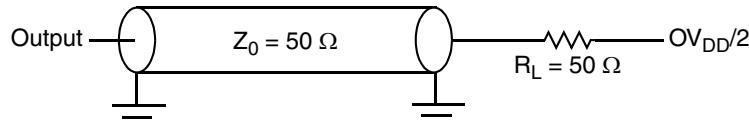

Figure 29. AC Test Load for the JTAG Interface
1. All outputs are measured from the midpoint voltage of the falling/rising edge of  $t_{TCLK}$  to the midpoint of the signal in question. The output timings are measured at the pins. All output timings assume a purely resistive 50- $\Omega$  load (see Figure 29). Time-of-flight delays must be added for trace lengths, vias, and connectors in the system.
2. The symbols used for timing specifications follow the pattern of  $t_{(\text{first two letters of functional block})(\text{signal})(\text{state})(\text{reference})(\text{state})}$  for inputs and  $t_{(\text{first two letters of functional block})(\text{reference})(\text{state})(\text{signal})(\text{state})}$  for outputs. For example,  $t_{JTDVKH}$  symbolizes JTAG device timing (JT) with respect to the time data input signals (D) reaching the valid state (V) relative to the  $t_{JTG}$  clock reference (K) going to the high (H) state or setup time. Also,  $t_{JTDXKH}$  symbolizes JTAG timing (JT) with respect to the time data input signals (D) went invalid (X) relative to the  $t_{JTG}$  clock reference (K) going to the high (H) state. Note that, in general, the clock reference symbol representation is based on three letters representing the clock of a particular functional. For rise and fall times, the latter convention is used with the appropriate letter: R (rise) or F (fall).
Figure 29 provides the AC test load for TDO and the boundary-scan outputs.